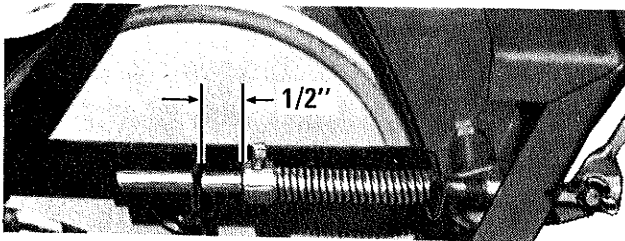

Figure 15.
3. Belt tension for the auger drive is regulated by the position of the set collar on the Auger Control clutch rod. With the Auger Control lever engaged, there should be 3/8" to 1/2" clearance between the collar and the front ear of the rod bracket. Loosen the square-head setscrew to position the stop collar. See Figure 15.